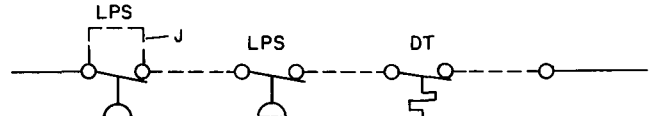

Fig. 15 — Defrost Thermostat with Jumper on Low-Pressure Switch and New Liquid Line Low-Pressure Switch Installed
4. **Winter Start Control** is required on all 50DF/DL units. Jumper low-pressure switch to make it inactive. **DO NOT RELOCATE.** Install new liquid line low-pressure switch at liquid line service valve and reset it for 5 psig. (Low-pressure switch, Carrier Part No. HK02AB026, preset at 5 psig, is recommended.) When required by the application, install a defrost thermostat (Carrier Part No. 50BB900001 or HH22UA025) on evaporator coil to provide freeze-up protection lost by jumpering low-pressure switch. (See Fig. 15.)